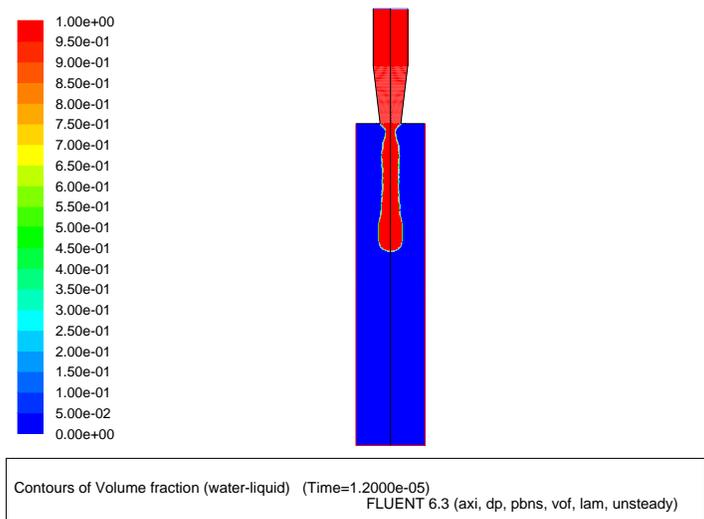

Figure 17.6: Contours of Water Volume Fraction After 12 μ s
3. Similarly, display contours of water volume fraction after 12, 18, 24, and 30 microseconds (Figures 17.6—17.9).